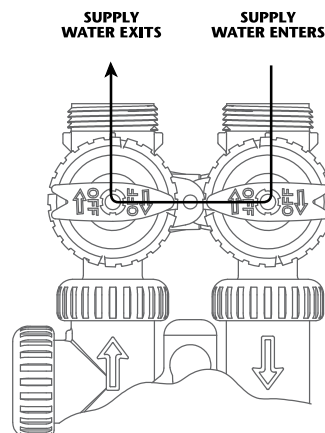

Figure 2
2. **Bypass Position:** The inlet and outlet handles point to the center of the bypass. The system is isolated from the water pressure in the plumbing system. Untreated water is supplied to the building (*figure 2*).
- After installation is complete, rotate bypass handles to bypass mode. (Figure 2 on page 2).
1. With the softener in the bypass mode (Figure 2 page 2) and the control valve in normal operation where the display shows either the time of day or the gallons remaining, manually add 5” of water to the regenerant tank.